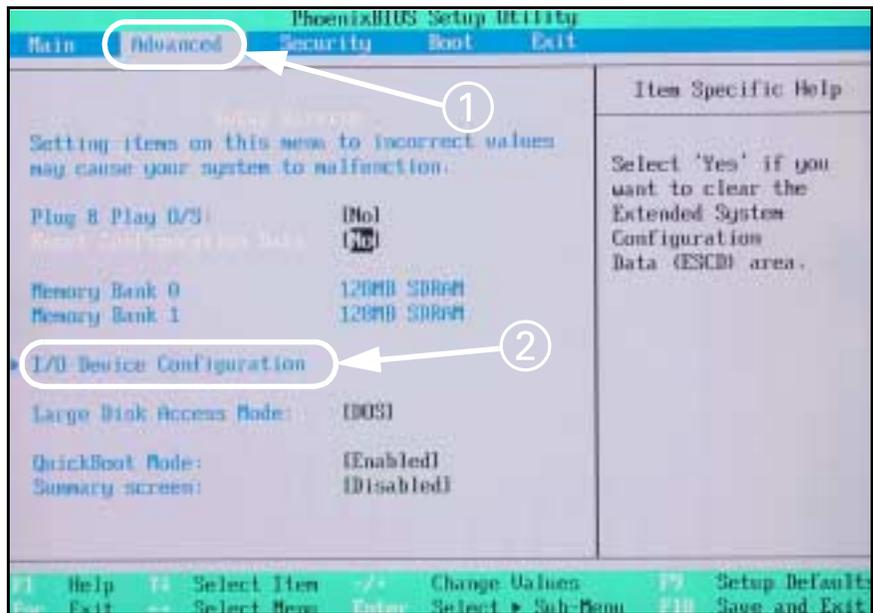

Figure 2-4 Advanced settings
12. Use left/right arrow keys to select "Advanced" tab (① in Figure 2-4).
13. Verify correct "Advanced" settings as shown in Figure 2-4.
14. Use up/down arrow keys to select I/O Configuration (② in Figure 2-4), and then press *<Enter>* key.